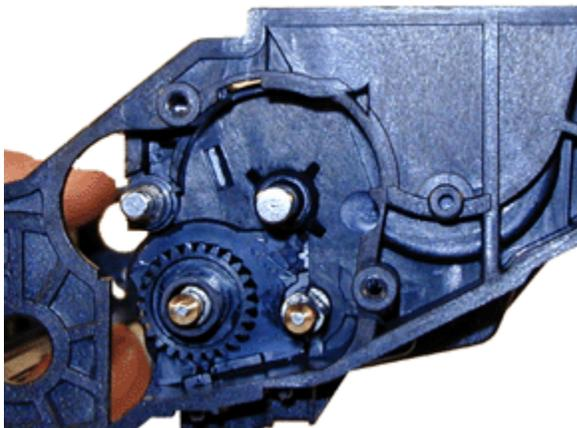

FIGURE 21
18. Replace the developer roller, clip, black gear, and bushing. In that order Make sure that the developer roller clip is snapped in place. See Figures 21 & 22